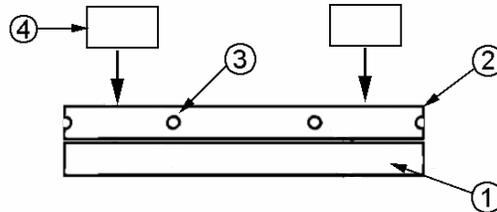

Figure 6: Drawing showing the use of the Planarizing Gage for positioning specimens in the holder.
1. Place the Planarizing Gage (Figure 6, #1) onto a hard, flat surface.
2. Place the Model 92005 fixture on top of the planarizing gage with the holes aligned with one another (Figure 6, #2)
3. Insert the specimens (Figure 6, #4) to be ground and polished into the mounting holes (Figure 6, # located in the fixture.
5. Tighten the set screws (Figure 6, #3) located on the Model 92005 to lock the specimens into position.
2. Place the Model 92006 fixture on top of the planarizing gage with the holes aligned with one another (Figure 6, #2).
3. Insert the specimens to be ground and polished into the mounting holes located in the fixture. (Figure 6, #2).